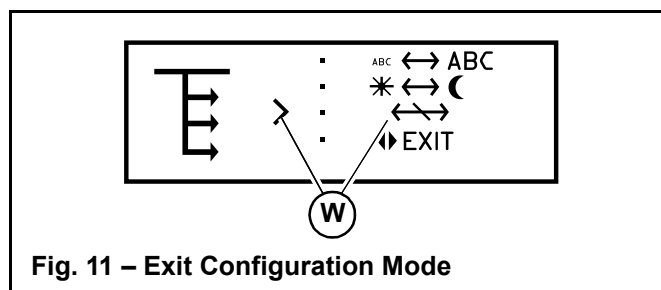

**Fig. 9 – ISO/D-H Control Pattern Configuration Selection**
2. Press and release the interface button until the selection caret points to the “ISO/D-H” selection (Y, Fig 9). Press and hold the interface button for 5 seconds.